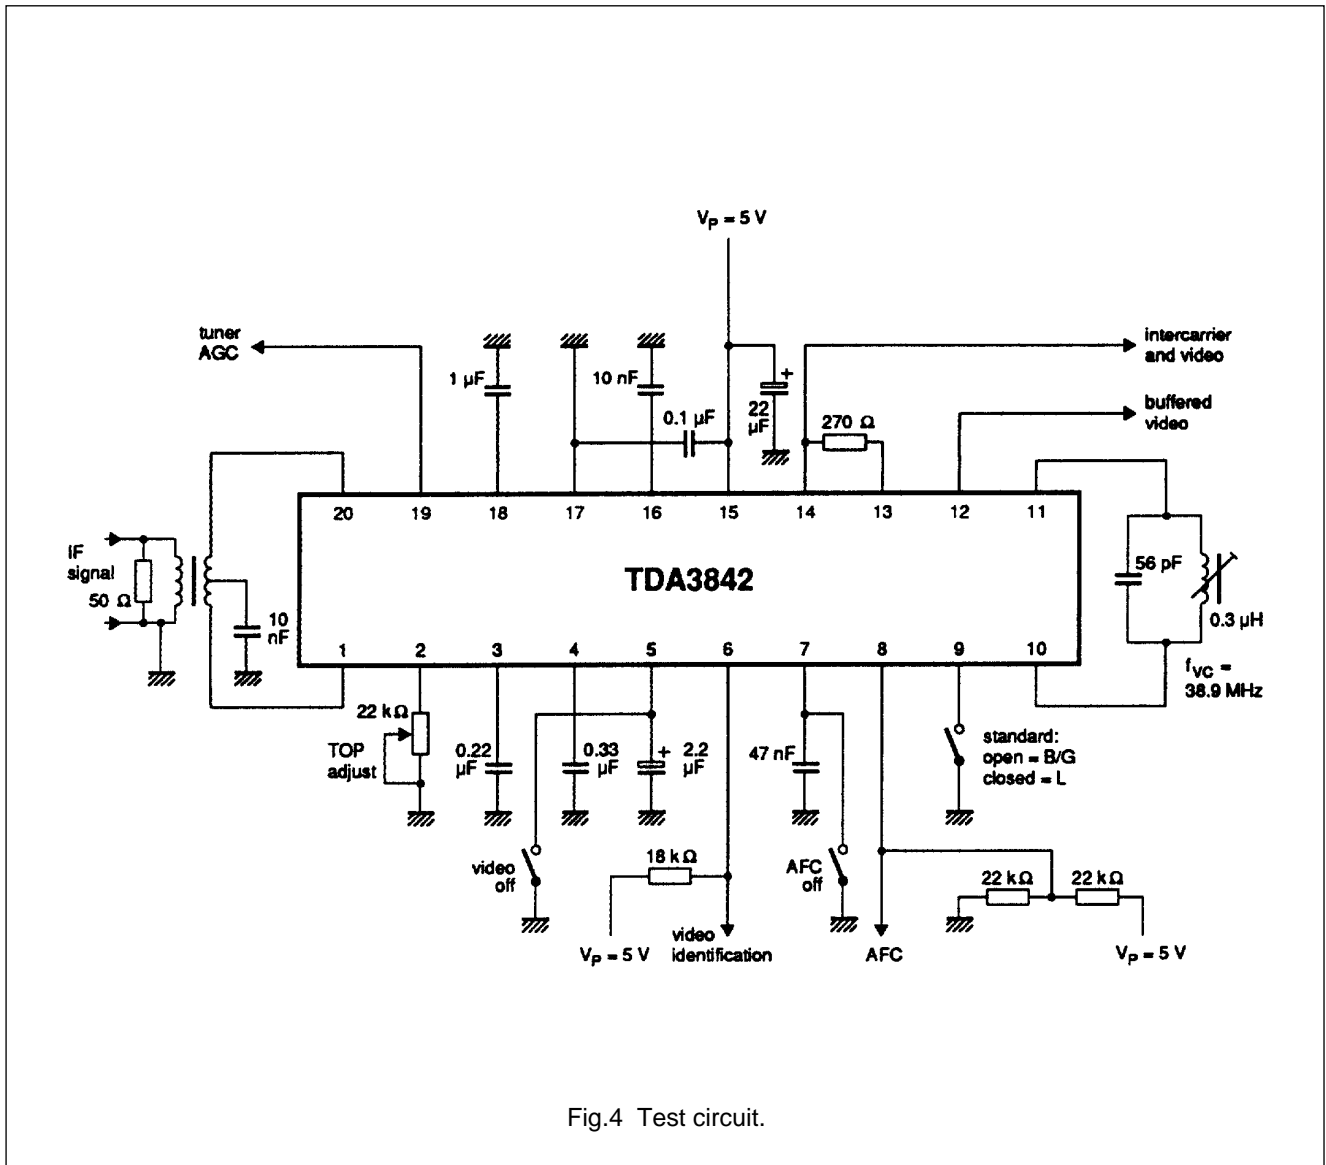

Fig.4 Test circuit.
4. IF input signals are RMS values measured at TOP sync (standard B/G) and with a vision carrier of 38.9 MHz (see Fig.4). The IF input signal is fed from $50\ \Omega$ via a 1:1 transformer, DSB, to pins 1 and 20. With a $10\text{ mV}_{\text{RMS}}$ IF input signal, the residual vision carrier is: = 10% for white (standard B/G), = 3% for sync (standard L).
5. In the test circuit of Fig.4, measured and weighted according to CCIR Recommendation 567: